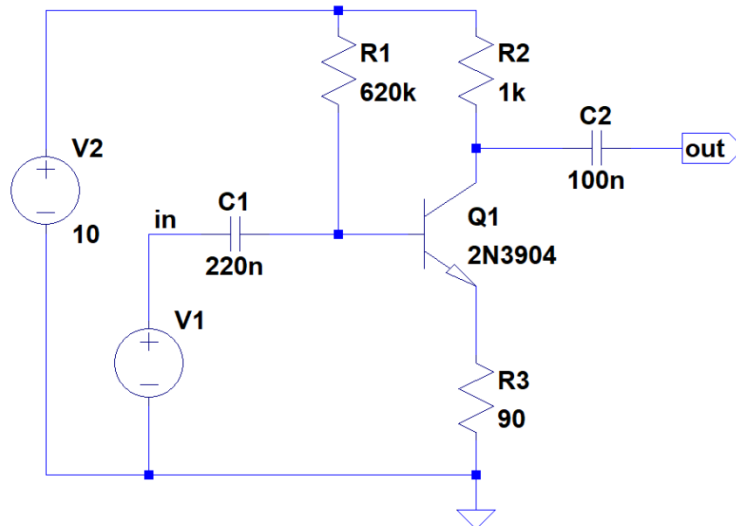

Fig. 13. Diagram of a transistor amplifier (take 10% resistors tolerance).
2. Develop the transistor amplifier circuit (Fig. 13), perform simulations in the same way as for the amplifier (point 2.).